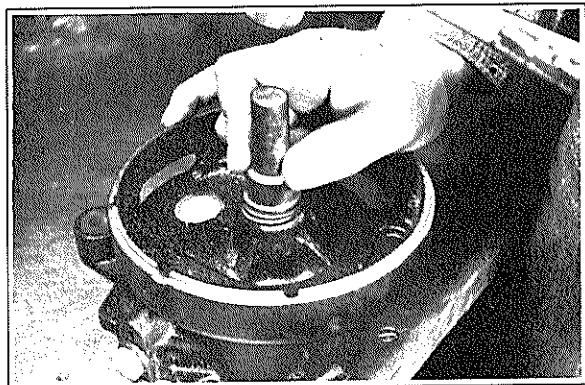

Figure 42
6. Apply Glyptol to seal recess and insert new seal, using seal tool No. ST148. When seal is set in place, compress spring by pushing down on seal tool. Drive seal home with light hammer blows. See Fig. 42.